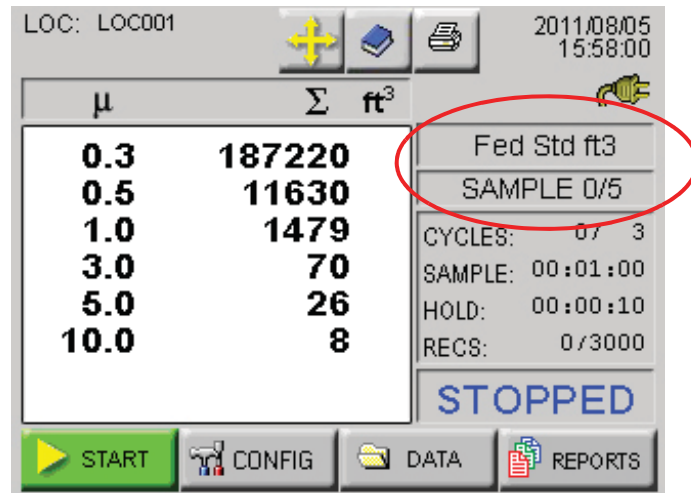

Figure 6-79 Reports Data
- When the reports mode is enabled, the currently selected report type and minimum required samples will be displayed on the MAIN screen as shown in Figure 6-79.